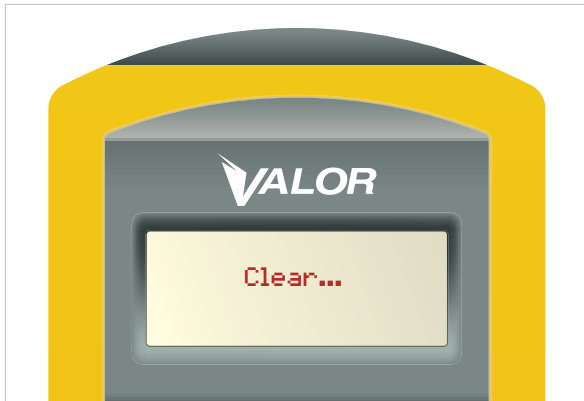

Figure 14
1. The SmarTool will display “Clear...” (Figure 14)